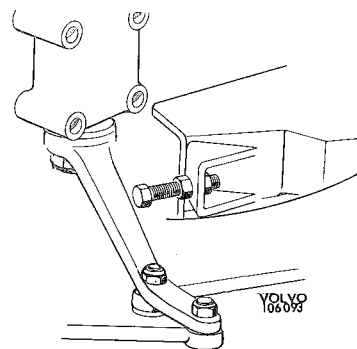

Fig. 6-10. Stop bolt, max. wheel lock
Wheel turning is limited by stop bolts, at the pitman arm (Fig. 6-10) and at the relay arm.
1. Turn the left wheel for a left-hand turn as far as it goes. Check that the lock angle of the wheels is 40–42°. If it is not, then adjust to this value with the stop bolt (Fig. 6-10) at the pitman arm.